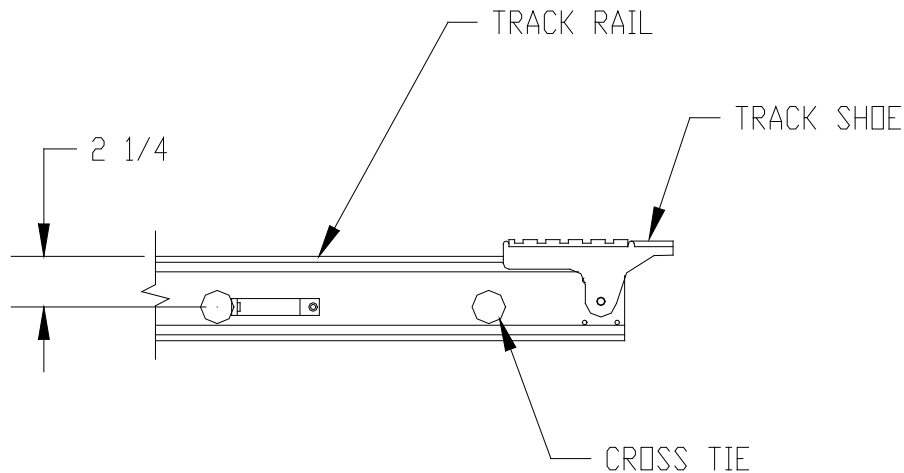

Figure 3-1.
1. Refer to Figure 3-1. The track cross ties offset from the center of the rails to allow passage of the platform wheels. Before erecting the track, lay the bottom 8-foot track section on the ground with the track shoes as shown with the greater cross tie offset on top (2-1/4").